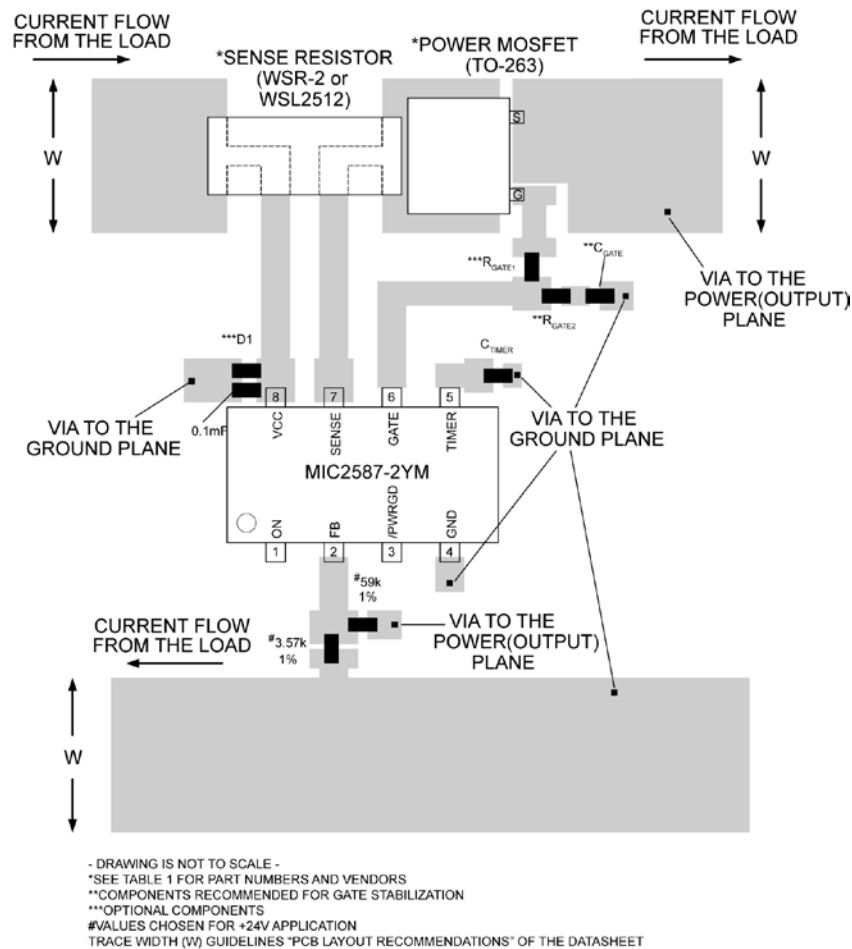

Figure 8. Recommended PCB Layout for Sense Resistor, Power MOSFET, Timer and Feedback Network
Figure 8 is a recommended PCB layout diagram for the MIC2587-2YM. Many hot swap applications will require load currents of several amperes. Therefore, the power (V_{CC} and Return) trace widths (W) need to be wide enough to allow the current to flow while the rise in temperature for a given copper plate (e.g., 1oz. or 2oz.) is kept to a maximum of 10°C to 25°C. Also, these traces should be as short as possible in order to minimize the IR drops between the input and the load. The feedback network resistor values in Figure 8 are selected for a +24V application. The resistors for the feedback (FB) and ON pin networks should be placed close to the controller and the associated traces should be as short as possible to improve the circuit's noise immunity. The input "clamping diode" (D1) is referenced in the "Typical Application Circuit" on Page 1. If possible, use high-frequency PCB layout techniques around the GATE circuitry (shown in the typical application circuit) and use a dummy resistor (e.g., $R_3 = 0\Omega$) during the prototype phase. If R_3 is needed to eliminate high-frequency oscillations, common values for R_3 range between 4.7 Ω to 20 Ω for various power MOSFETs. Finally, the use of plated-through vias will be needed to make circuit connection to the power and ground planes when utilizing multi-layer PCBs.